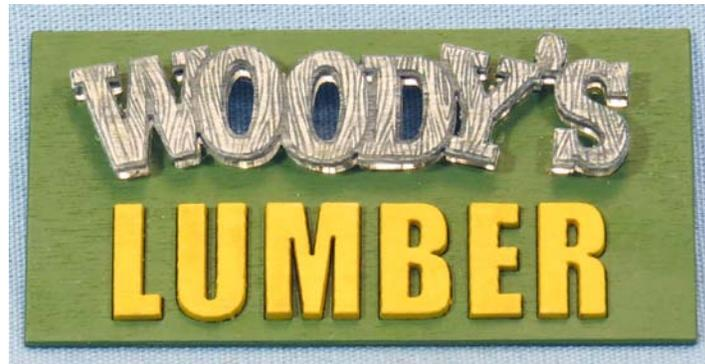

Fig. 10
Now glue the wooden engraved piece over the acrylic spacer as shown in Fig. 10. You will want to use Cyanoacrylate (CA) for this step too. When you have completed the other sign face proceed to the next step.